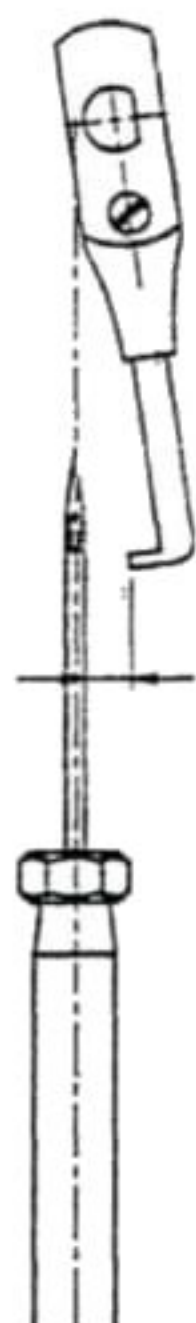

FIG.07
B. Adjustment I distance between the looper & the left side of needle. (Fig. 07)
- a. Turn the gear (6001401) to check whether the distance between the left stroke limit of looper and needle is about 0.85. (see also Fig. 07)